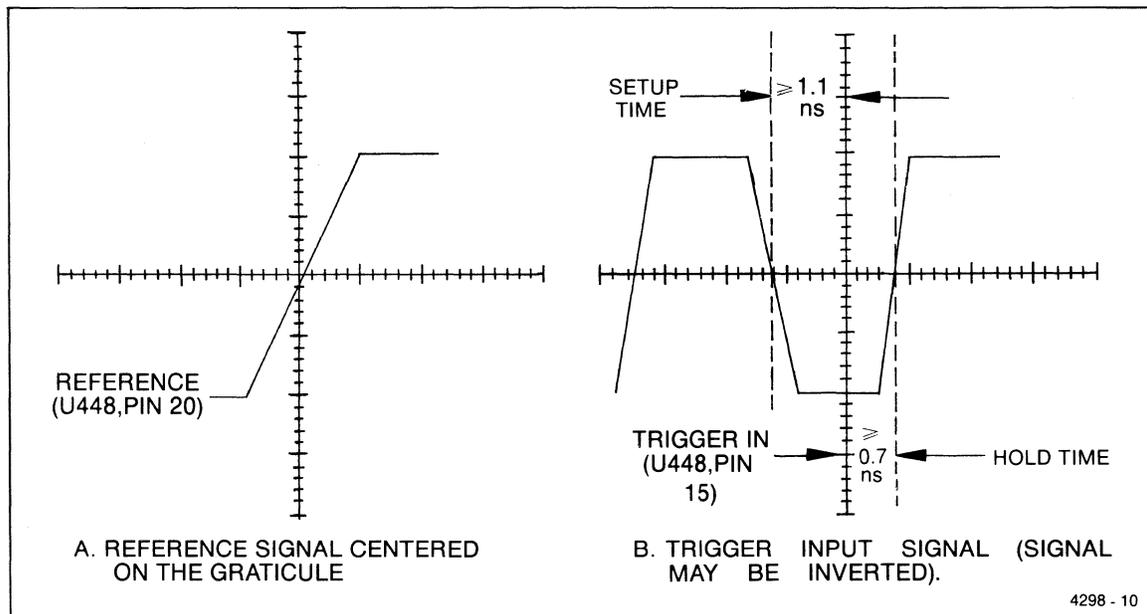

Figure 5-9. 91A04A high-speed clock setup and hold times.
9. Carefully center the rising edge of the clock pulse on the vertical and horizontal center lines of the graticule (see Figure 5-9).
12. Verify that the setup time is ≥ 1.1 ns and hold time is ≥ 0.7 ns as shown in Figure 5-9.
- c. Connect the P6201 FET probe tip to 100 K threshold at TP533, and connect the probe ground to the ground (G) test point next to U435.
9. Carefully center the rising edge of the clock pulse on the center vertical and horizontal lines of the graticule (see Figure 5-9).
13. Repeat this procedure (16) for each 91AE04A in the system. This completes the performance check of the 91A04A and 91AE04A system. The test setup may now be dismantled. Turn off the DAS mainframe before removing any modules in order to prevent damage to the modules or the mainframe.